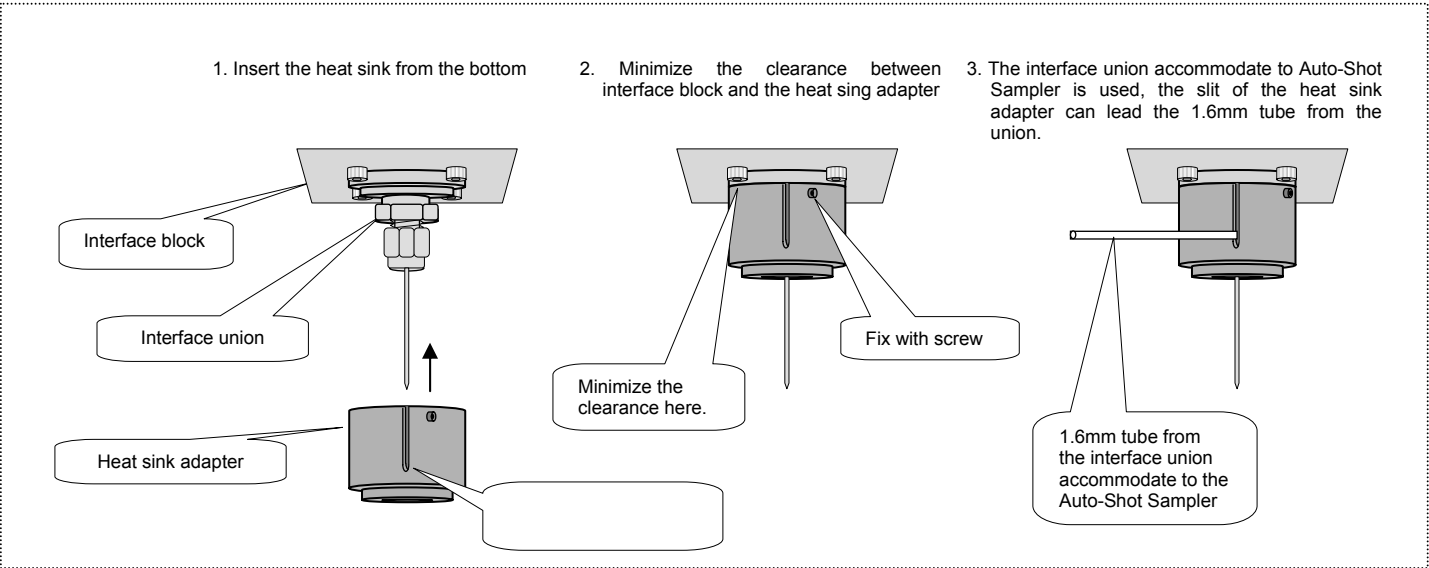

Fig. 3.11 Heat sink adpter installation
STEP 8 Heat sink adapter installation (Fig. 3.11)
Insert the heat sink adapter on to ITF block as shown in Fig.3.11 and fix it with the supplied 1.5mm hex-driver. The slit should face to backward of the furnace for easy accessing to both of two fixing screws. When interface union accommodate to Auto-shot sampler is used, the slit of the heat sink adapter can lead the 1.6mm tube from the union. The clearance between ITF block and the heat sink adapter should be minimized to provide the best performance.